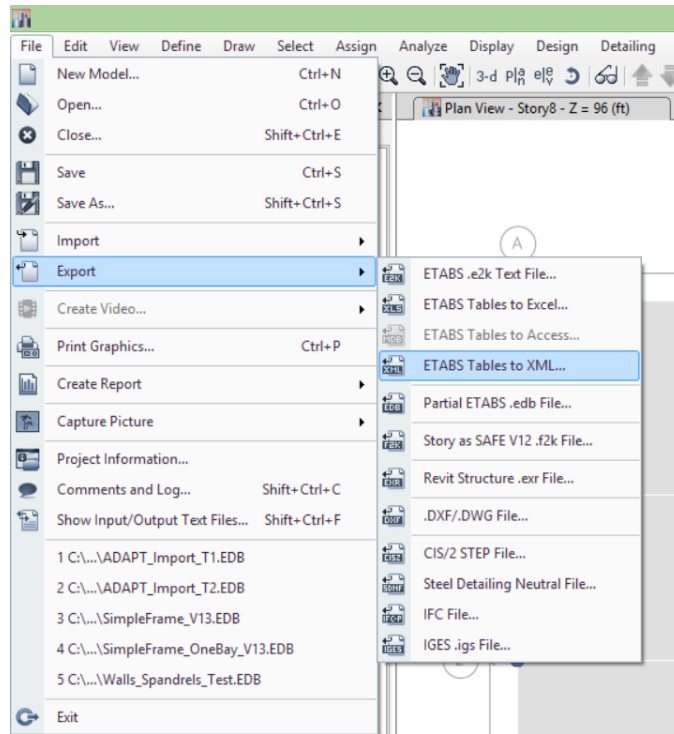

Figure 2 Preparing ETABS .XML File
- After the ETABS model has been analyzed and the solution saved, In ETABS, select *File* ➔ *Export* ➔ *ETABS Tables to XML* (**FIGURE 2**). This file contains the applicable story force data relative to lateral loading using the “auto-lateral” function in the ETABS model.